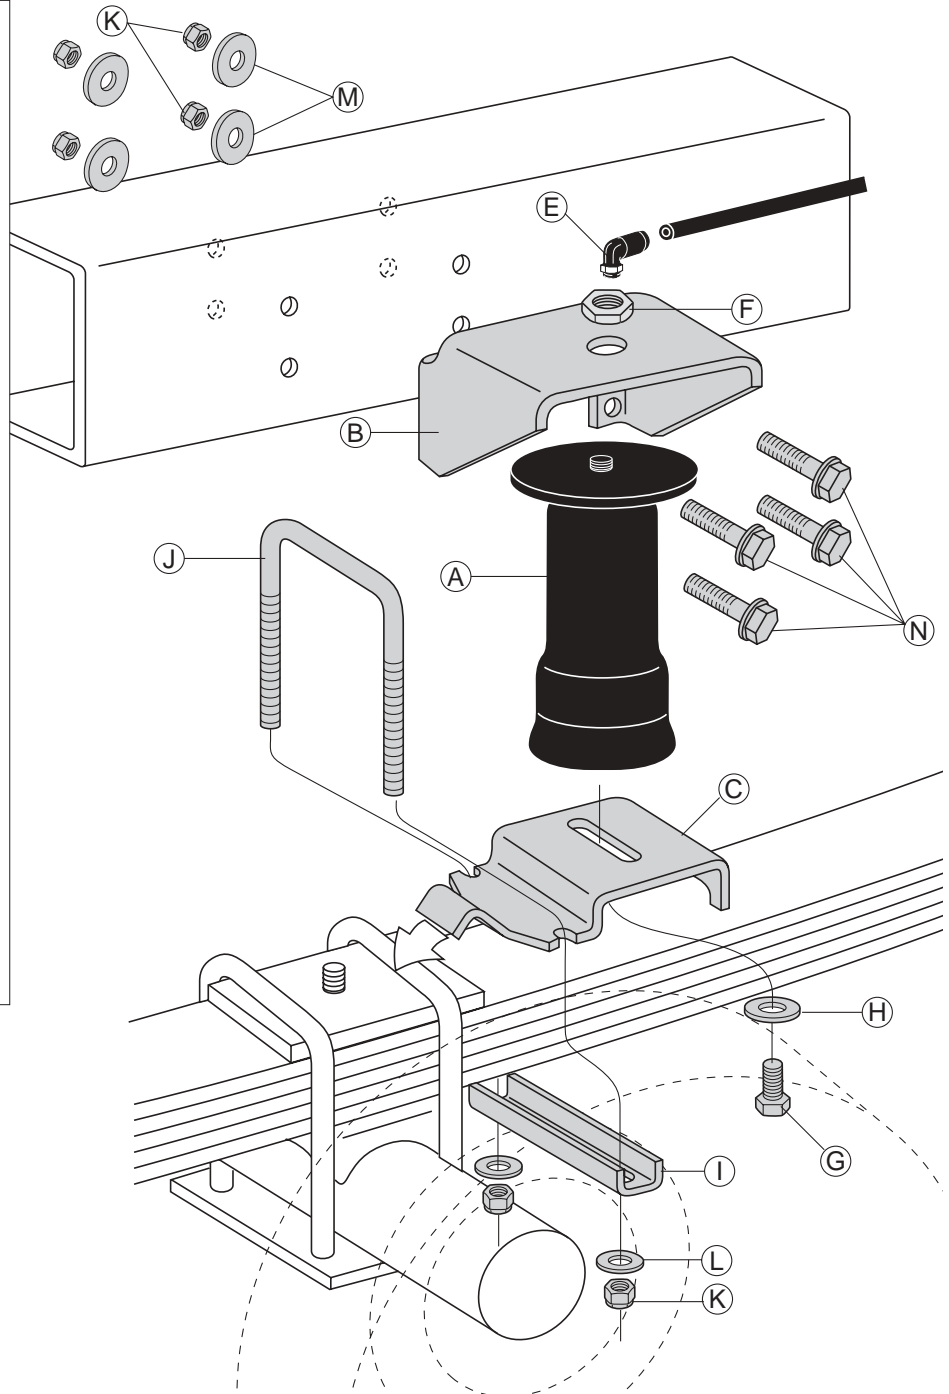

Figure 1
(* not shown in Figure 1)
3. Loosely install a washer head frame bolt (N), large flat washer (M), and nylock nut (K). Refer to Figure 1.